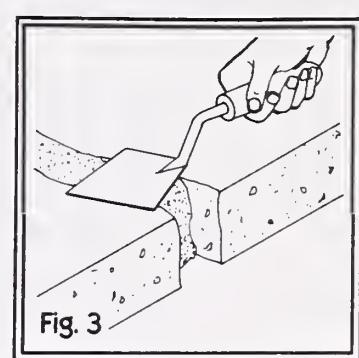

Fig. 3
5. Using the trowel, put mixture into the crack (fig. 3).
(a) Dig a trench, approximately 1 foot wide and 3 feet deep, adjacent to the foundation wall (fig. 3).